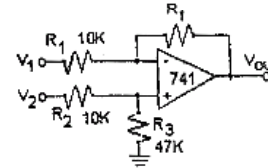

Fig.6b
b. **Differential Amplifier:** Realise the circuit of Fig.6b.